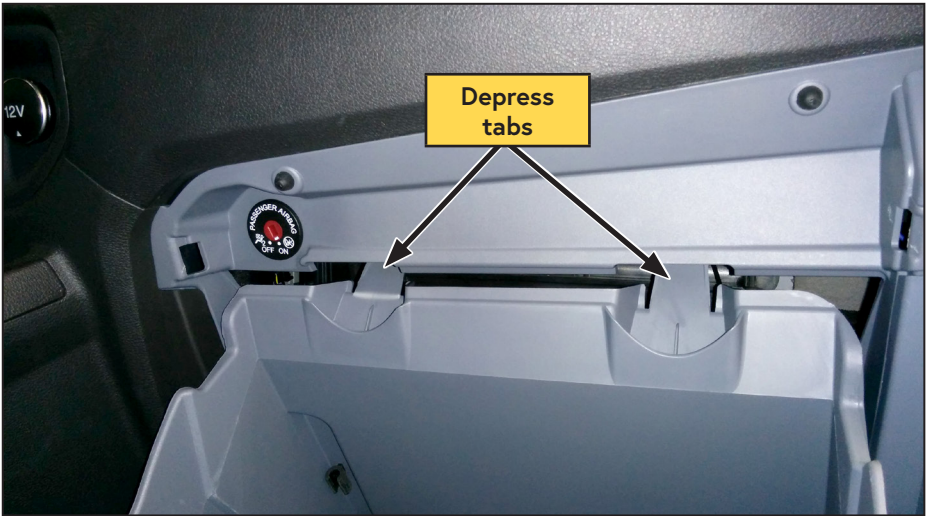

Figure 72 — Drop glove box
- Open the glove compartment and depress the 2 tabs at the top rear to allow the compartment to hang down and out of the way (Figure 72).